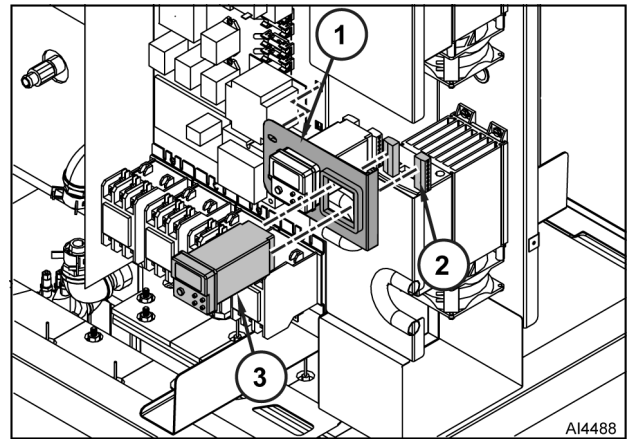

Fig. 55
2. Remove screws and PID mounting bracket (1, Fig. 55) from electrical panel